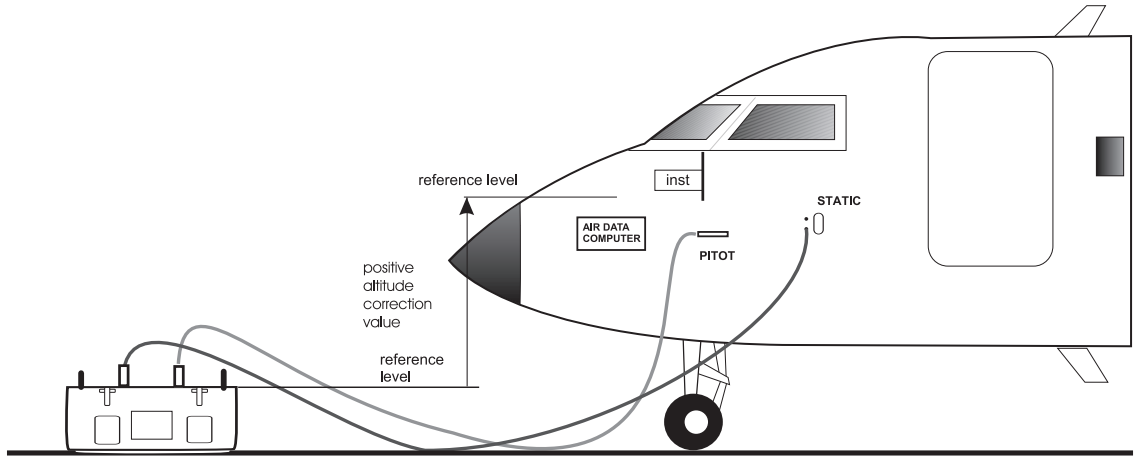

FIGURE 2-2 ADTS 505 ALTITUDE CORRECTION ON-AIRCRAFT
- ◆ It is important that the position of the ADTS 505 in relation to the aircraft altitude sensors is known. An altitude correction must be made to allow for the difference in height between the reference level and the aircraft's altitude sensors (Figures 2-2 and 2-3). The Reference section contains details of altitude correction.